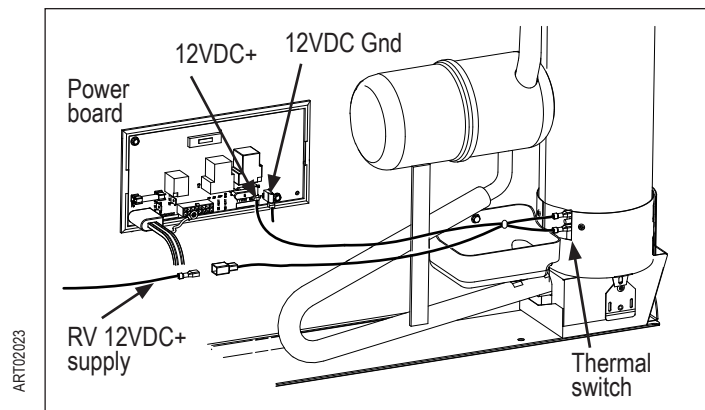

Figure 6. Connecting the Switch Electrically
The wire harness consists of two wires held together by a tie wrap near the ends that attach to the thermal switch. Refer to Figure 6.
3. Connect the long end, which has the smaller connector, to the male terminal, labeled 12VDC+ on the power board, as shown in Figure 6.
After you lift the refrigerator back into its enclosure in the following section, you will connect the remaining switch wire (with the large connector) to the RV's 12VDC+ supply line as shown in Figure 6.
4. If present, remove the protective tape from the RV's 12 VDC+ supply line and reconnect it to the new, loose wire from the thermal switch. Refer to Figure 6.